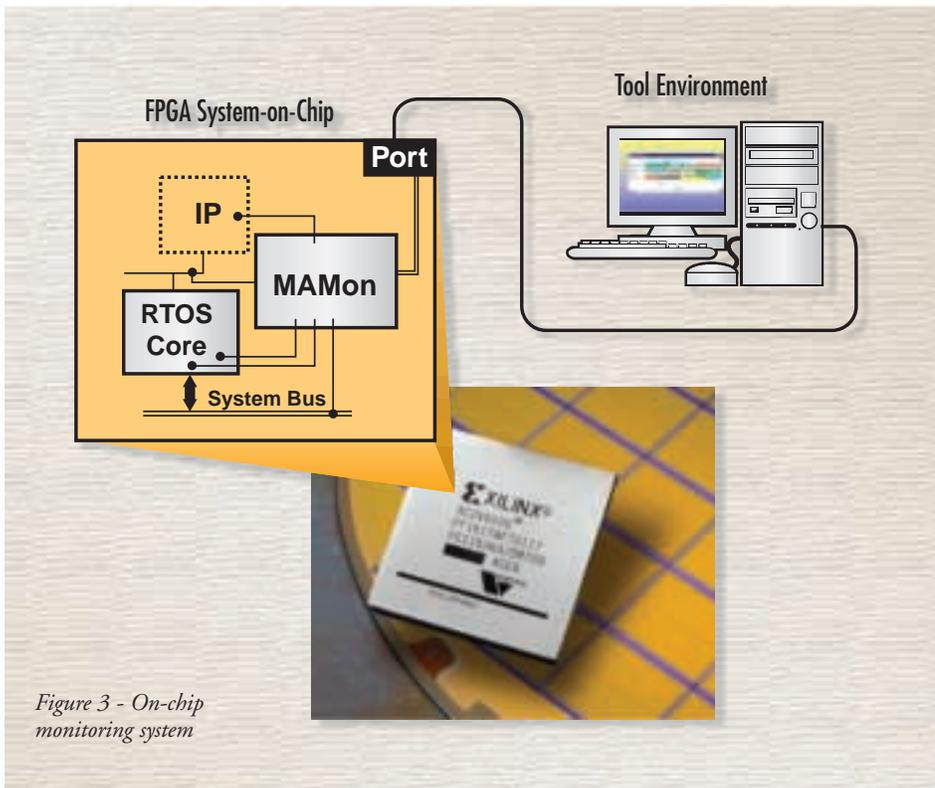

Figure 3 - On-chip monitoring system
intellectual property (IP) component available for the Sierra 16 RTOS is the Multiprocess Application Monitor (MAMon). As shown in Figure 3, this monitor is implemented in hardware and listens nonintrusively to the different parts inside the Sierra 16 RTOS.